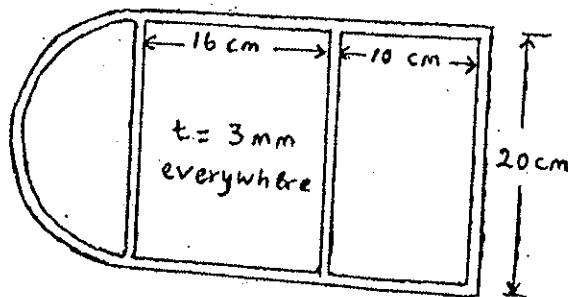

Fig. 7
- (b) A multicell structure shown in Fig. 7 is subjected to a clockwise torque of 1000 N-m. Compute the shear flow in the cell structure and the associated twist.